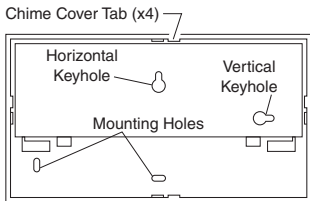

Figure 2 - Back of Chime
2. **Remove chime cover.** Use a small screwdriver to pry the cover tabs away from chime base and remove cover (see Figure 2). *Note:* To remove the cover after base is mounted, firmly grasp cover and pull.